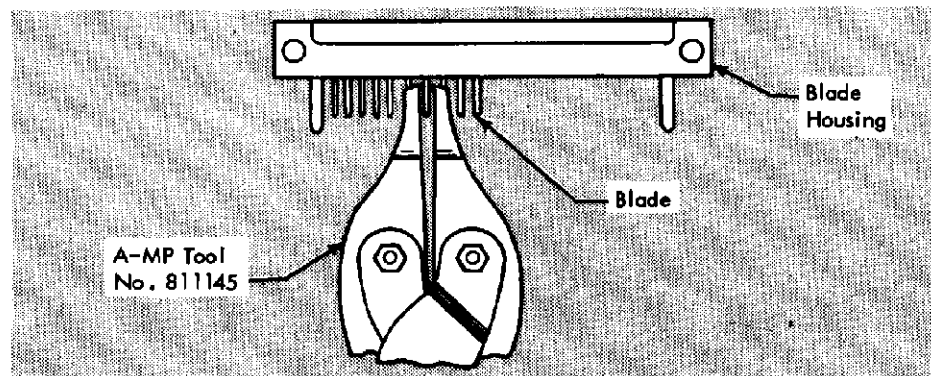

Fig. 2
4. Cut off Blade, which mates with Cavity containing Plug, with A-MP Tool No. 811145 as shown in Figure 2.